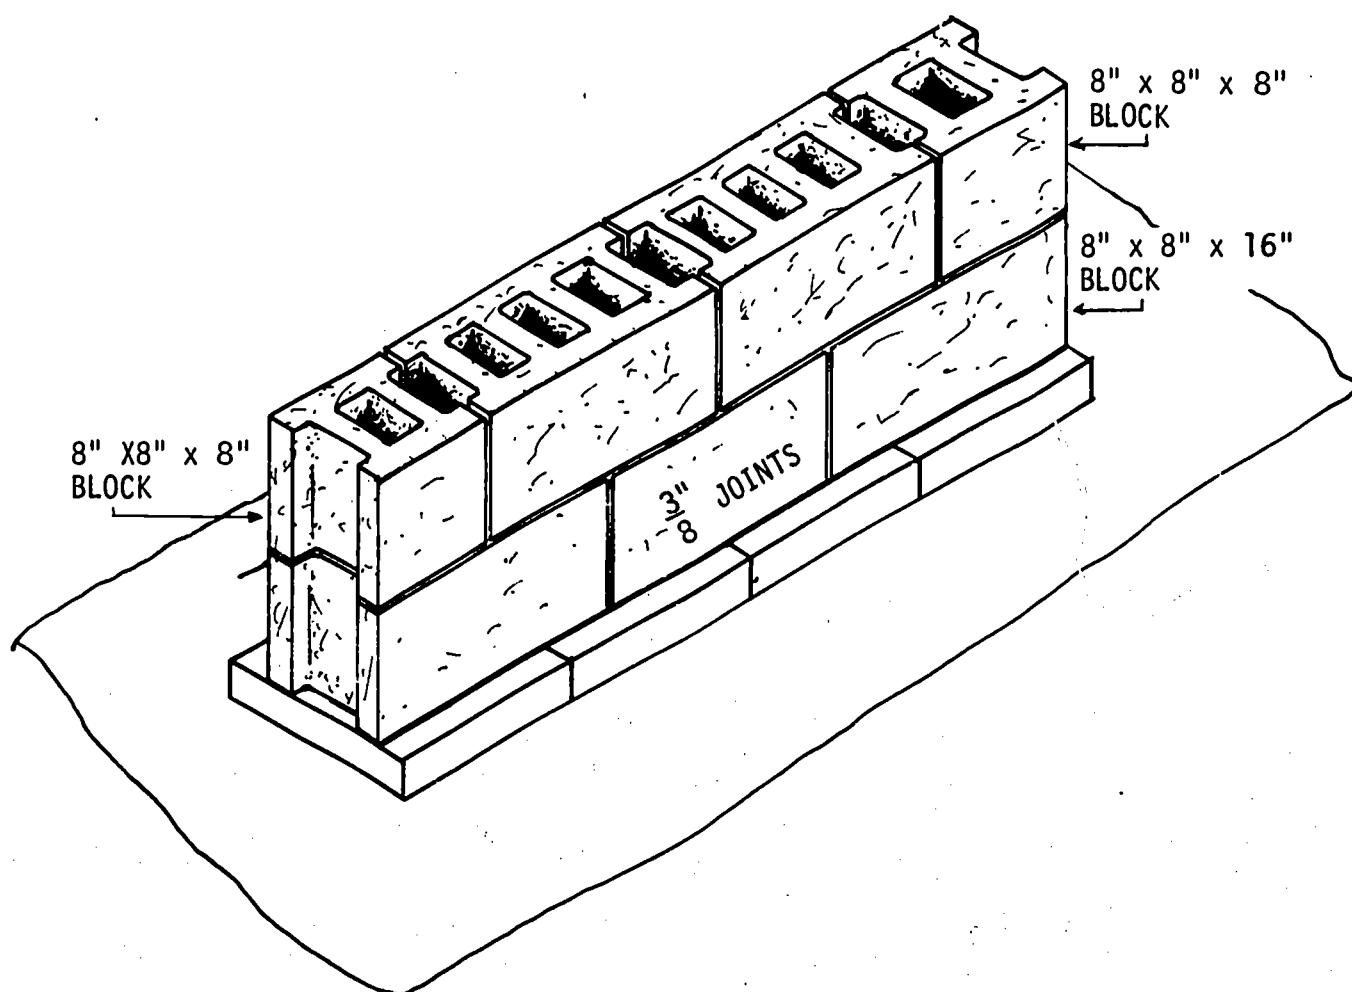

Fig. 44-2. Concrete Block Bearing Wall
8. Follow the block laying procedure that your teacher has demonstrated. Lay 2 courses of block with $\frac{3}{8}$ " joints as shown in Fig. 44-2.